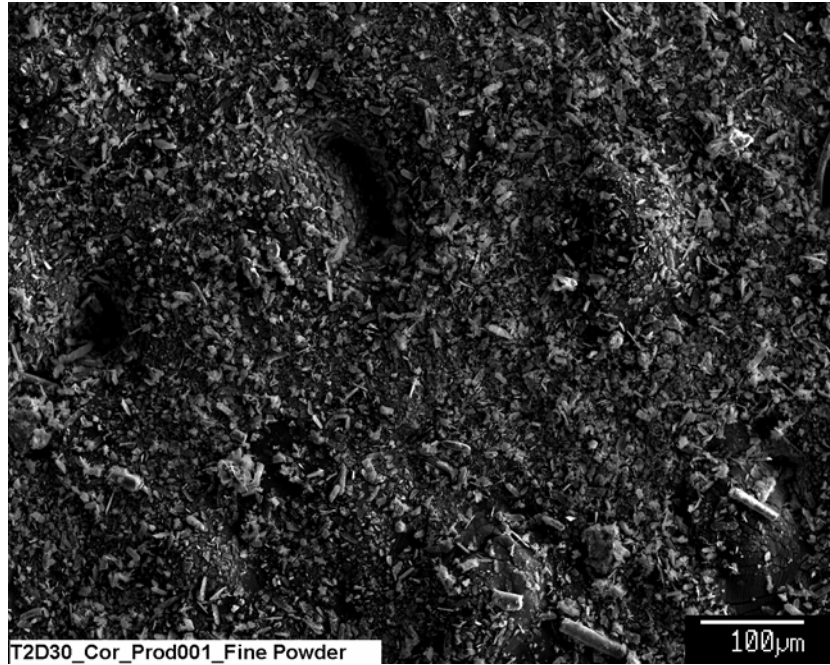

Figure B-1. SEM image (150×) for a Test #2, Day-30 sample of fine powder on a vertical piece of the submerged PVC rack. (T2D30_Cor_Prod001_Fine Powder)
- Figure B-1. SEM image (150×) for a Test #2, Day-30 sample of fine powder on a vertical piece of the submerged PVC rack. (T2D30_Cor_Prod001_Fine Powder)..... B-5